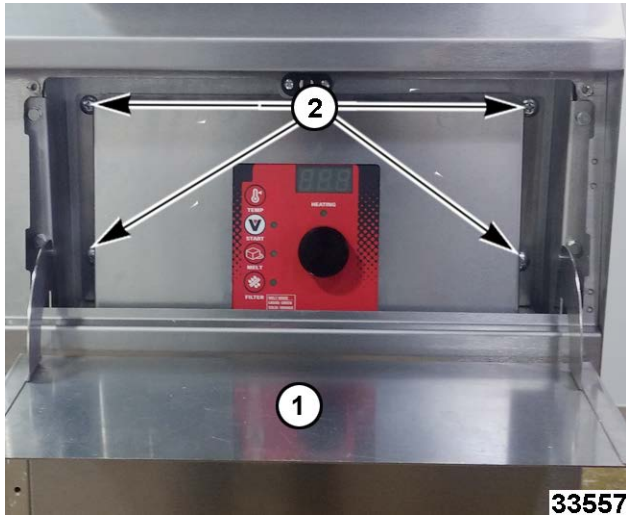

Fig. 6
1. Open access door (1, Fig. 6) to analog control board.
2. Remove control panel mount screws (2, Fig. 6).